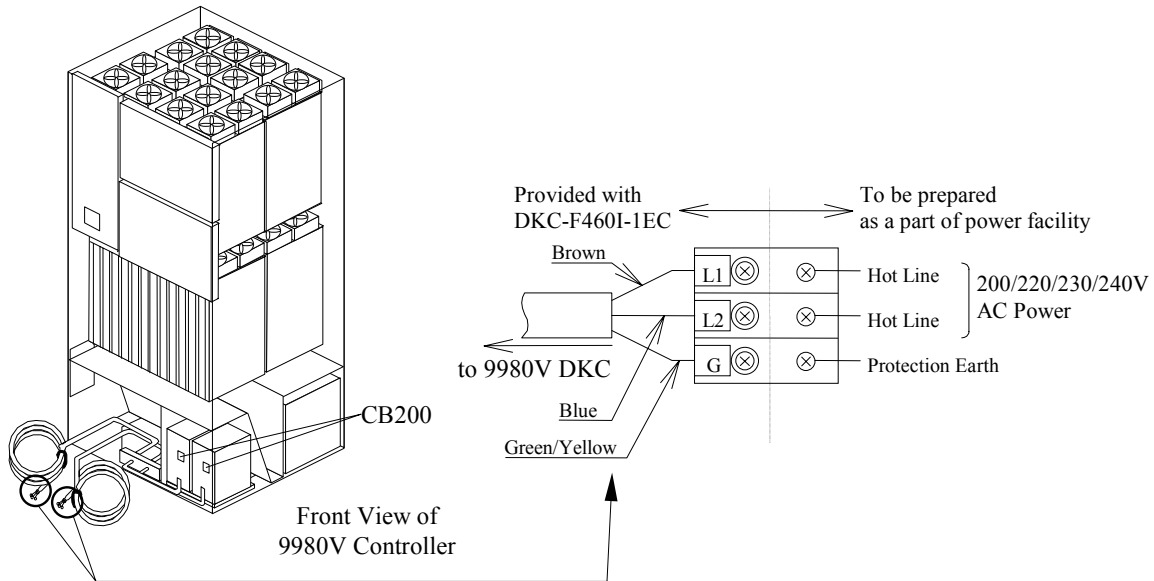

Figure 5.22 Power Plugs for Single-Phase 9980V Controller (Europe)
- Figure 5.22 illustrates the power plugs for a single-phase 9980V controller (Europe).